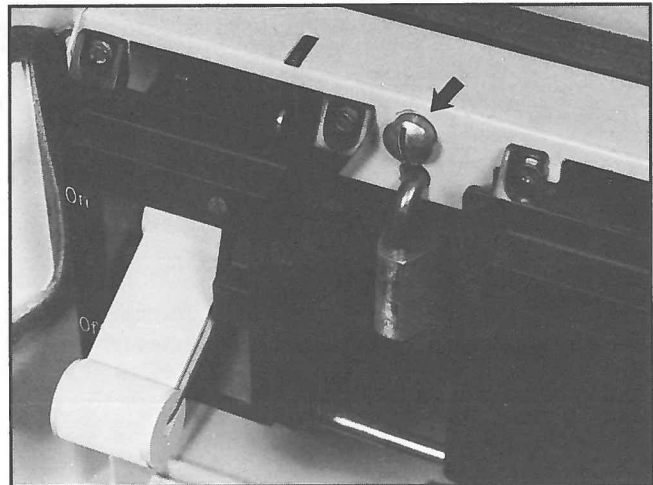

Fig. 25 Unit Locked in Detent Position
For maintenance and test purposes, the unit can be partially withdrawn (approximately 1½ inches) until the stabs are free of the bus. In this position, the quarter-turn latch can be rotated clockwise to engage the detent position slot, this will secure the unit to ensure the stabs remain disengaged during maintenance. See Figure 25. The latch can be padlocked in this position.
**CAUTION:** Maintenance of control components requires that all power to these components be turned OFF by opening the branch circuit disconnect means and withdrawing the unit to the detent position (see Figure 25) or removing the unit entirely from the MCC. When units are fully inserted into the MCC, the line side of each disconnect is energized. Do not work on fixed units unless the main disconnect for the MCC is OFF.